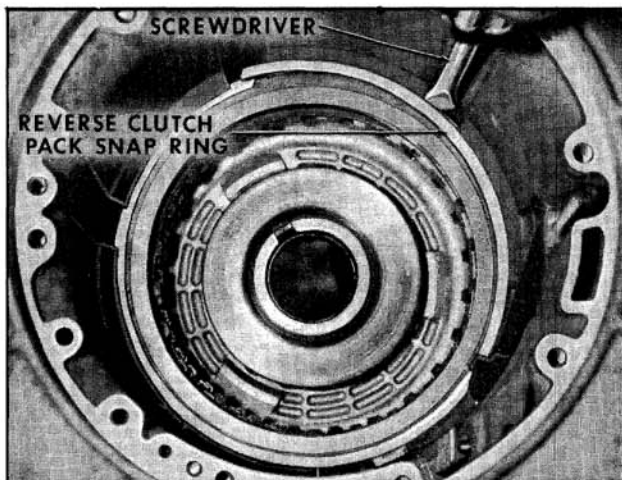

Fig. 6-378 Removing Reverse Clutch Snap Ring
1. Place transmission in vertical position and remove reverse clutch pack snap ring with screwdriver. (Fig. 6-378)